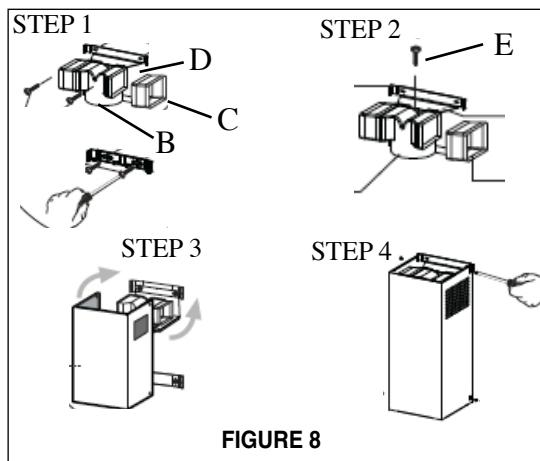

FIGURE 8
1) See (**FIGURE 8**), **Step 1** - connect **B** (Diverter) and **C** (2 - Diverter extension) pieces together, one on each end. Hold the (**D**) Diverter wall support on the wall 1/8" from the ceiling using the center line as a middle reference point. Using 2 screws, attach the chimney bracket on top of (**D**) the diverter wall support together into the wall. **Step 2** - Attach the diverter and extension pieces (**B, C**) to the diverter wall support with a screw (**E**).